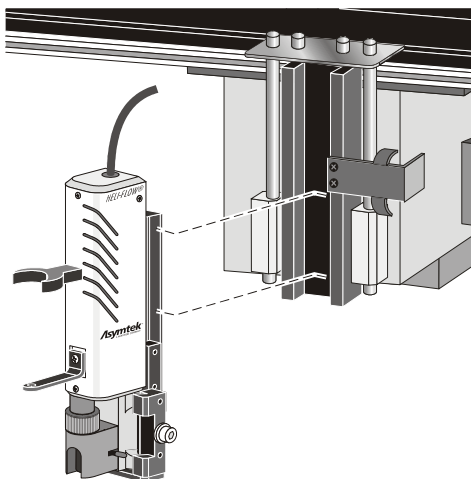

Figure 3-4 Mounting the Valve (Century)
7. Slide the pump (with Height Sensor, if installed) into the valve mounting plate (Figure 3-4).